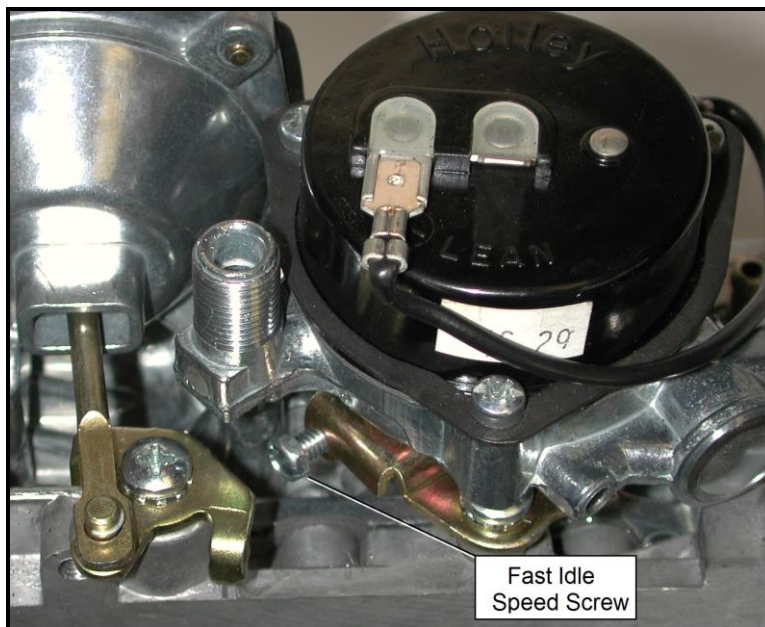

Figure 7
2. If the fast idle RPM is too low or too high for your preferences, SHUT DOWN THE ENGINE! Advance the throttle to wide-open, exposing the fast idle set screw below the choke housing (**Figure 7**).